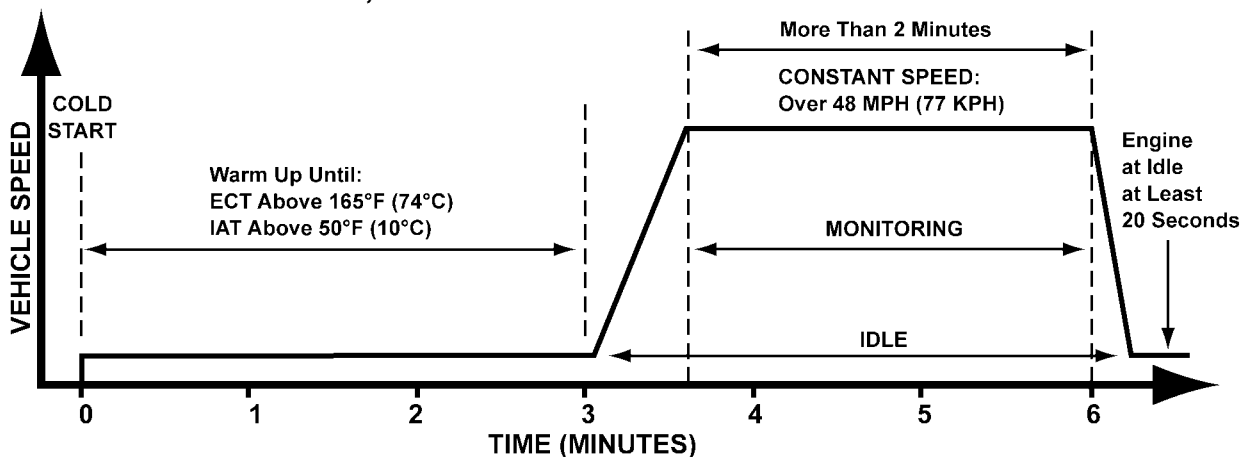

Figure MA000-18
4. Drive vehicle as indicated by the graph (Figure MA000-18).